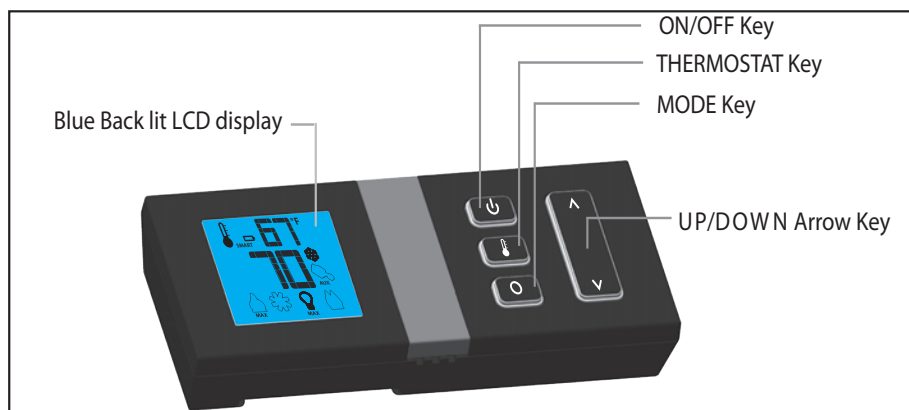
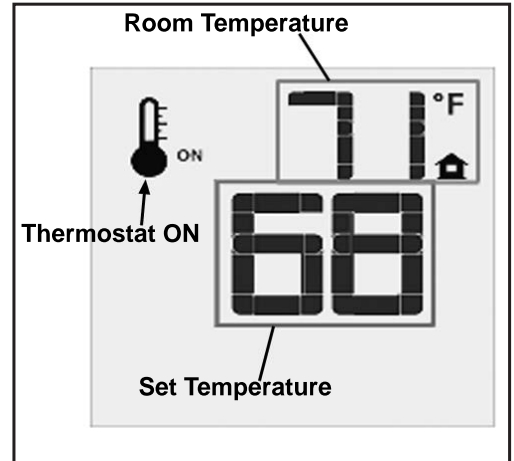

Figure 3: Proflame 2 Transmitter.
Figure 8: Thermostat Function
The Proflame 2 Transmitter is a remote control with a blue backlit lcd display. It uses a streamline design with a simple button layout and informative lcd readout (Figure 3). The Transmitter is powered by three (3) AAA type batteries. A Mode Key is provided to Index between the features and a Thermostat Key is used to turn on/off or index through Thermostat functions (Figure 8 & 9).